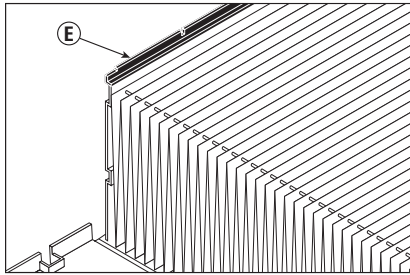

Figure 2
- B. Place black holding brackets (Figure 2E) over cardboard flaps (Figure 3C) as shown in Figure 2.